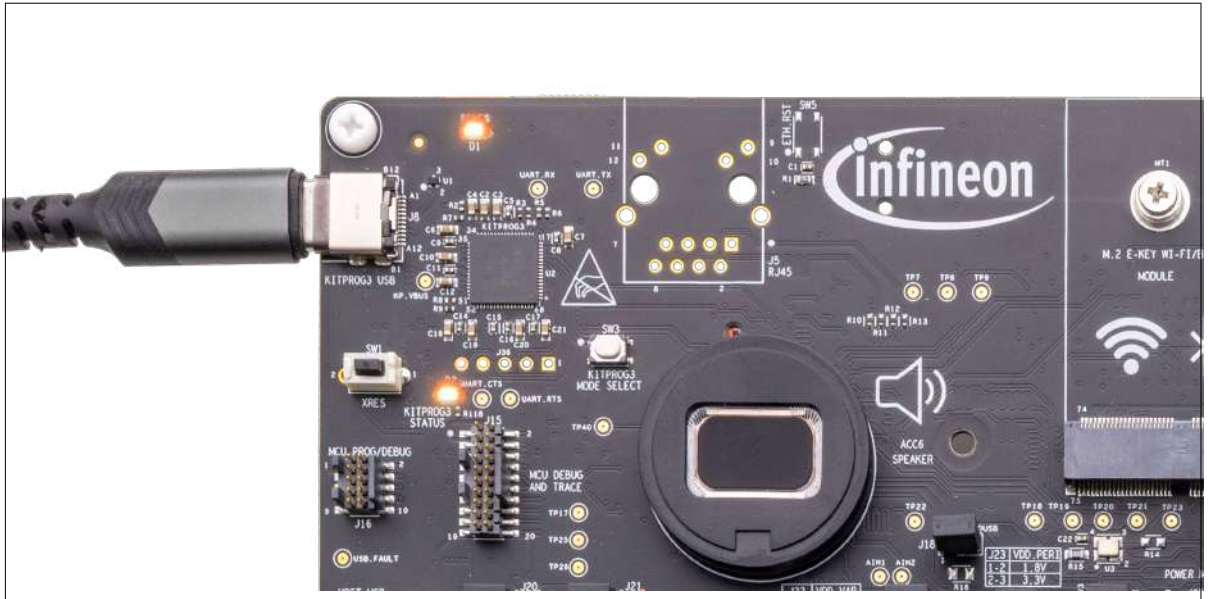

Figure 13 Connect USB cable to USB connector on the board
1. Connect the board to the PC using the provided USB cable through the KitProg3 USB connector, as shown in Figure 13. It enumerates as a USB Composite Device if you are connecting it to your PC for the first time